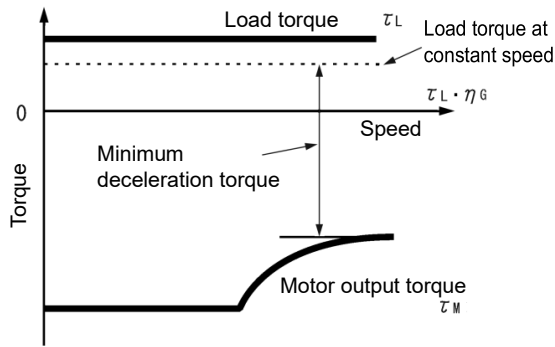
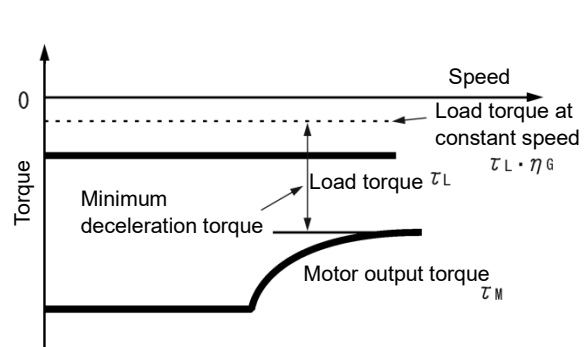

Fig. 10.2-3 Example study of minimum deceleration torque (1)
Fig. 10.2-4 Example study of minimum deceleration torque (2)
- 2) Calculate the **minimum deceleration torque**. (For details, refer to Fig. 10.2-3 and Fig. 10.2-4.)